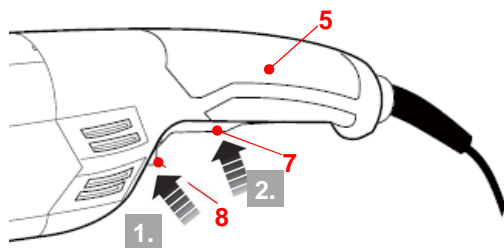

Fig. 17
1. Push forward the lock-off button (8) and hold it in position (Fig. 17, step 1).
2. Press the on/off switch (7) to switch the product on (Fig. 17, step 2). Release the lock-off button (8) afterward.
3. Release the on/off switch (7) to switch the product off.